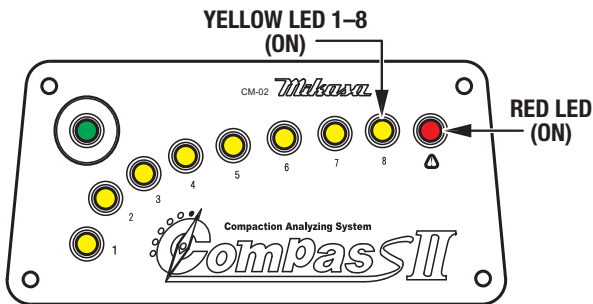

Figure 66. Sensor Panel Display (Compaction Limit)
- When the compaction limit is reached, the red LED will turn on (Figure 66). This will only happen **after** all eight yellow LEDs have turned on.